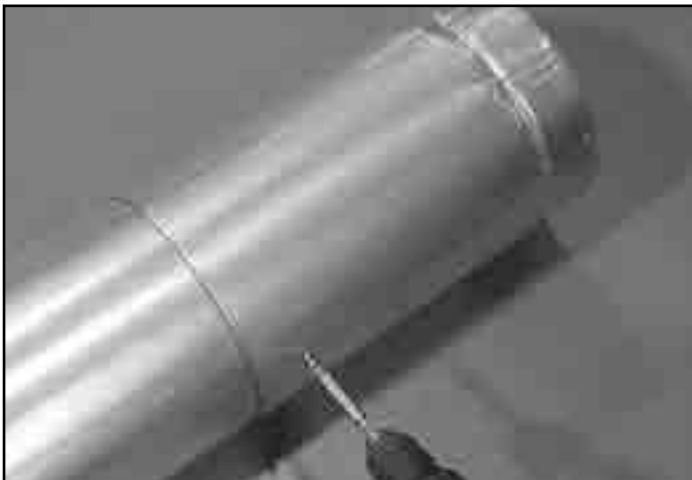

Figure 7.4 Screws into Slip Section
- Secure the pipe and slip section with three screws no longer than 1/2 in. (13 mm), using the pilot holes in the slip section. See Figure 7.4.